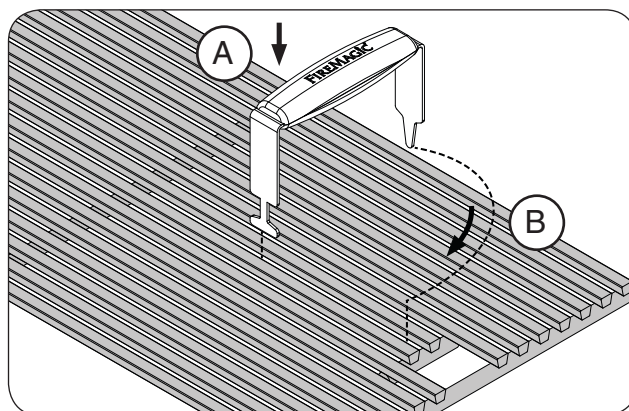
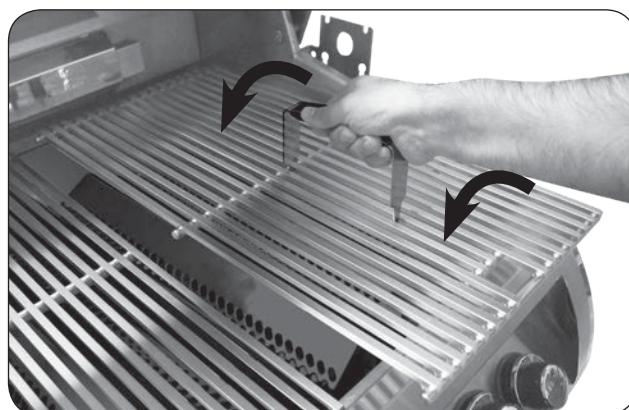

Fig. 23-1 Install cooking grids
Fig. 23-2 Install cooking grids
1. With the prongs facing downward, insert the notched-end of the lifter between two grid rods, then rotate, as shown in Fig. 23-1, A & B.
2. Insert the rear pointed-end of the lifter between the same two rods (Fig. 23-1, B) and carefully lift the cooking grid and place onto the front and rear grid rests of the grill (see Fig. 23-2). Repeat for all other cooking grids.